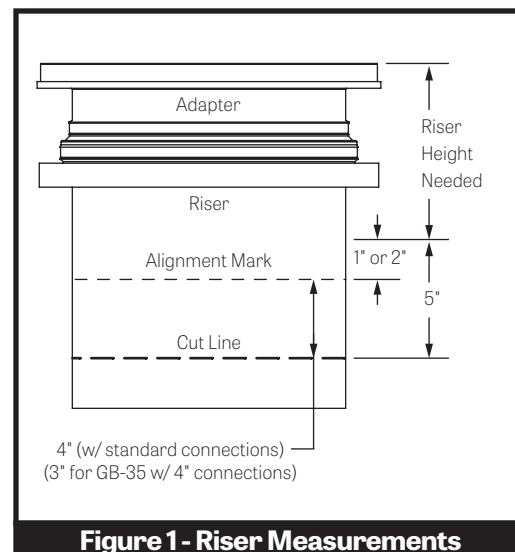
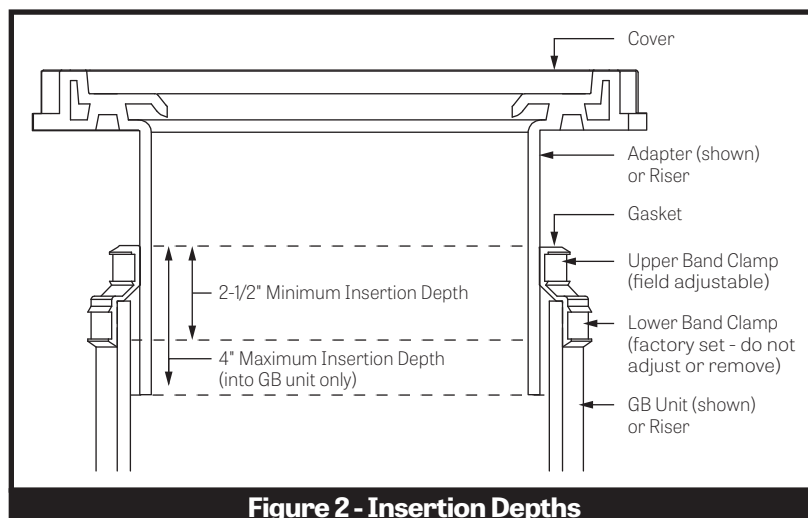

Figure 1 - Riser Measurements
Figure 2 - Insertion Depths
2. Remove covers from adapters. Remove adapters from main unit. On a level surface, pre-assemble the risers and adapters, adjusting the components upwards or downwards to achieve the riser height needed. Make sure to maintain minimum and maximum insertion depths as shown in Figure 2. If components are too long, make a circular line around the sidewall with marker and cut with a power saw. The lowest cut line on the riser assembly will be 5" beyond the riser height needed to allow for ideal insertion depth (See Figure 1). An alignment mark should be drawn 1-2" beyond the riser height needed (depending on connection size) which will align with the top of the base unit gasket. **DO NOT** cut the alignment mark. The Adapters and risers should sit level with each other. Tighten upper clamps to keep riser/adaptor assembly from shifting. Make alignment marks on the sidewalls at the top of all riser gaskets to aid final assembly.
4. Take apart riser assembly and clean all sidewalls and insides of gaskets to remove dust/debris. Install components into the main unit starting from the lowest riser and work your way up to finished grade. Maintain minimum and maximum insertion depths for all components (see Figure 2). Tighten Upper Clamps to specified torque after correctly positioning components. Riser assembly may need to be supported during backfill.
6. If riser height conditions change after completing above steps, there may be room for adjustment. As long as minimum and maximum insertion depths are maintained (see Figure 2), the adapters/risers can be adjusted/cut as many times as necessary. When riser system installation is complete, see Leak/Seal Testing procedure if required (p3 of 5).